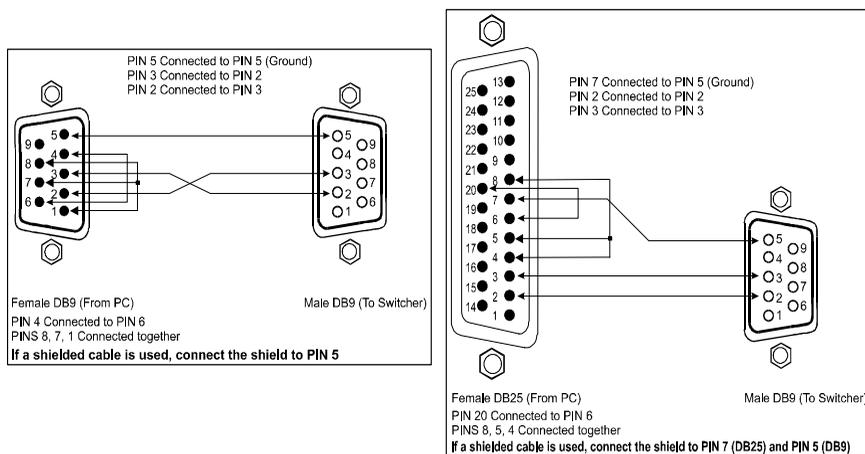

Figure 4: Connecting a PC without using a Null-modem Adapter
- Connect the RS-232 DB9 port on your PC to the RS-232 DB9 rear panel port on the **VP-1201** unit, as Figure 4 illustrates² (depending on whether the PC has a 9-pin or 25-pin connector)